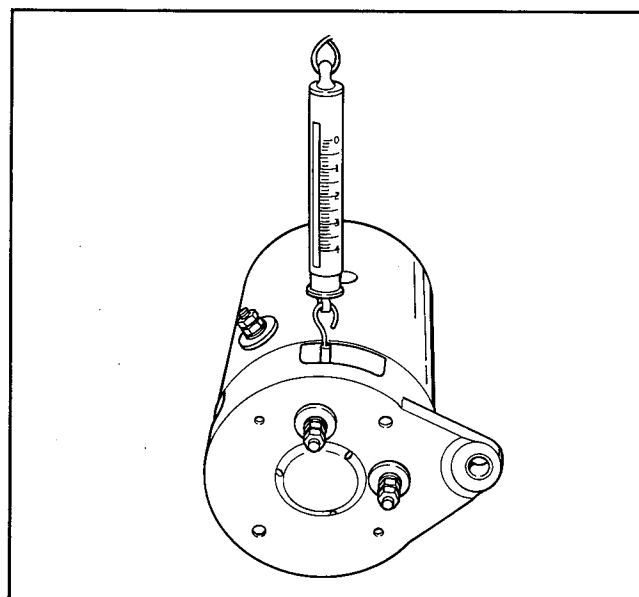

Figure 10-13 – Test Brush Spring Tension
- b. Test brush spring tension. Use a scale, Figure 10-13, to test spring tension. Reject springs which apply a force less than 28 ± 4 oz. (680.4 grams).